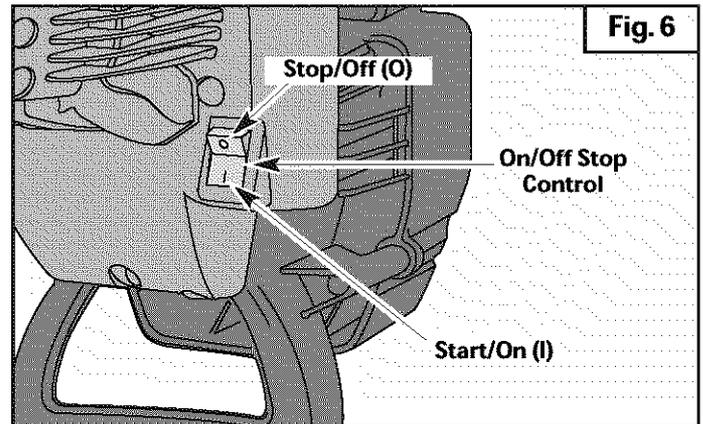

Fig. 6
2. Make sure the On/Off Stop Control in the **ON (I)** position (Fig. 6).
2. Put the On/Off Stop Control in the **OFF (O)** position (Fig. 6).